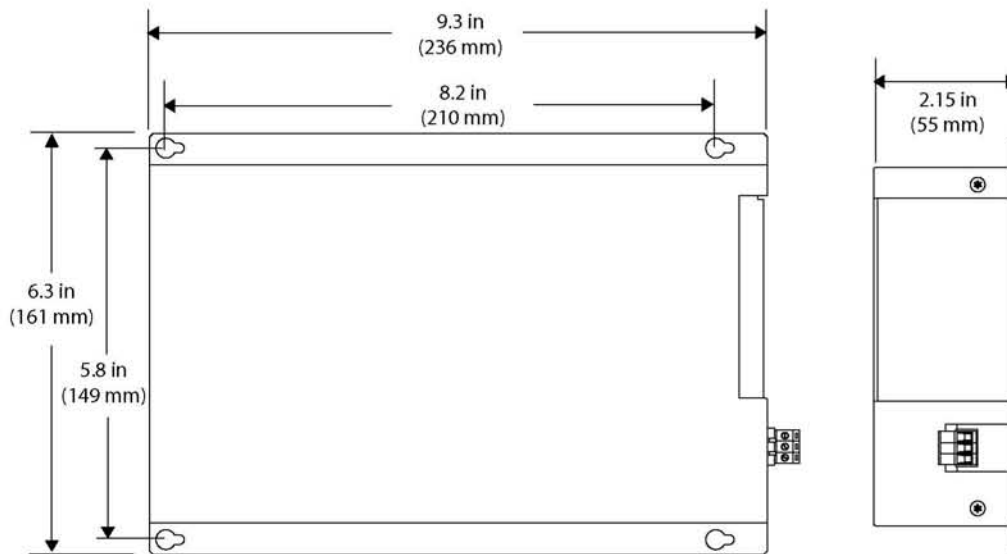

Figure 8. 502R Rack Card Enclosure Mounting Data
- 3) Determine where the module will be installed, and ensure that there is adequate space for making the various cable connections and for reading the diagnostic LEDs. See Figure 8.